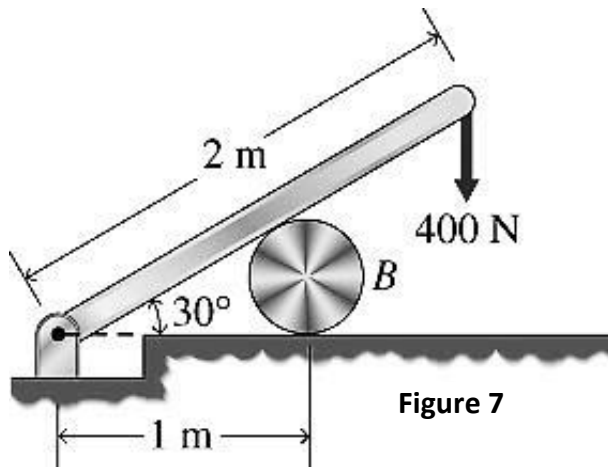

Figure 7
7. A massless rod of length 2m is being pressed downwards on a cylinder of weight 200N with a vertical force of 400 N as shown in figure 7. The coefficient of contact friction is same at all contact surfaces. Find the minimum coefficient of static friction needed to maintain equilibrium. Neglect thickness of the rod, assuming it to be a straight line segment of zero thickness (10).